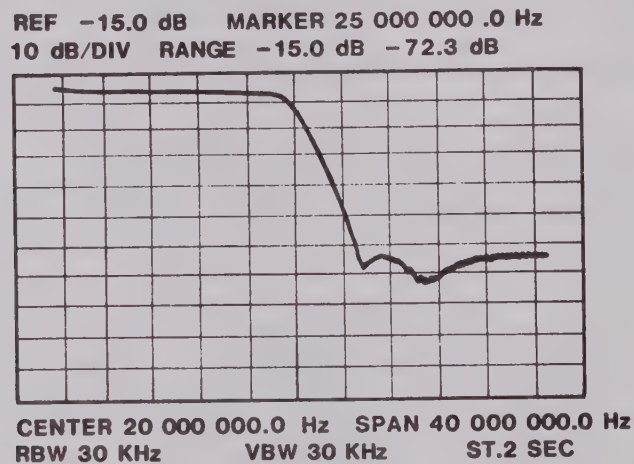

Figure 4-14. Typical Input Converter Swept Response
2. **Figure 4-14** illustrates a typical Input Converter swept response with the notch frequency and the adjustment for that notch.